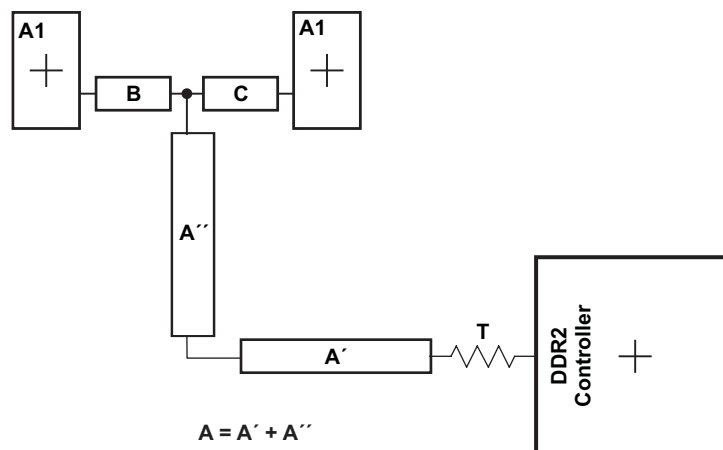

Figure 8-10. CK and ADDR_CTRL Routing and Topology
Figure 8-10 shows the topology of the routing for the CK and ADDR_CTRL net classes. The route is a balanced T as it is intended that the length of segments B and C be equal. In addition, the length of A ($A' + A''$) should be maximized.
(1) The length of segment A= $A' + A''$ as shown in Figure 8-10.
(2) Center-to-center spacing is allowed to fall to minimum (w) for up to 500 mils of routed length to accommodate BGA escape and routing congestion.
(3) CACLM is the longest Manhattan distance of the CK and ADDR_CTRL net classes.